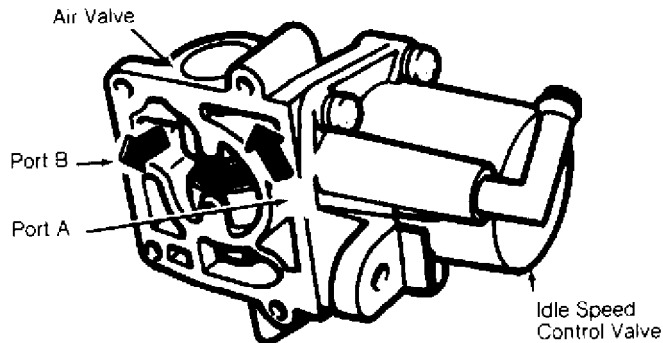

Fig. 49: Testing Air Valve (B2200, B2600i, MPV 2.6L, MX-6 & 626)
1) Remove air valve from throttle body. Blow air through valve from port "A" and ensure air comes out of port "B" when valve is cold. See Fig. 49.